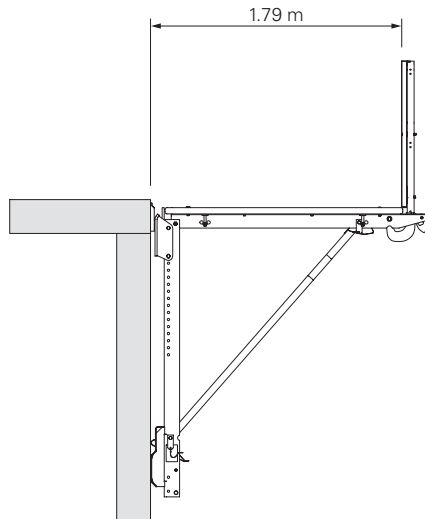

Fig. B1.01
- Loop Mounting Head-2 FB up to Load Class 3 (Fig. B1.01)